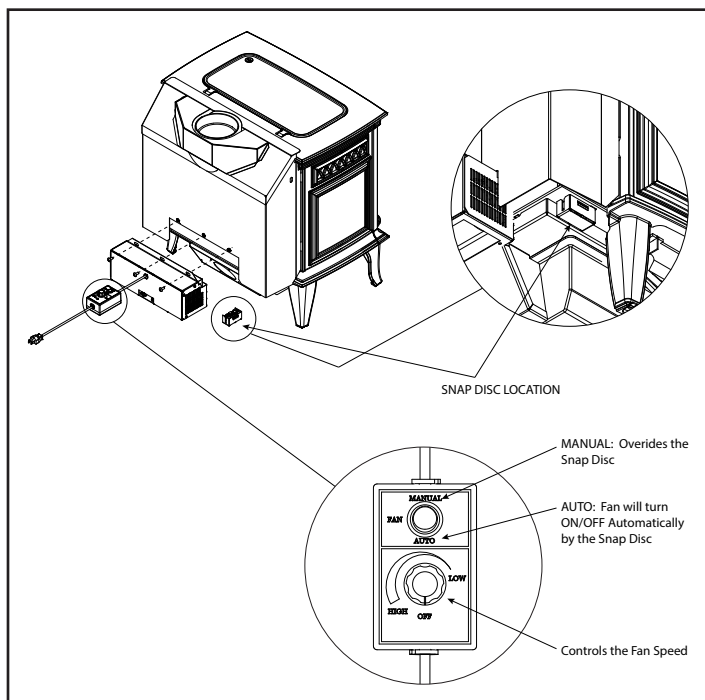

Figure 16.2
2. Align holes in mounting flange of blower with bolt holes in appliance. Blower should be positioned at bottom of rear outer skin as shown in **Figure 16.2**